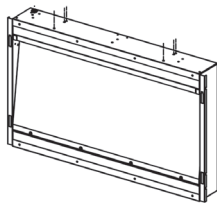

Figure 7
- There are four installation holes at bottom of the heater as indicated (see Fig. 7).